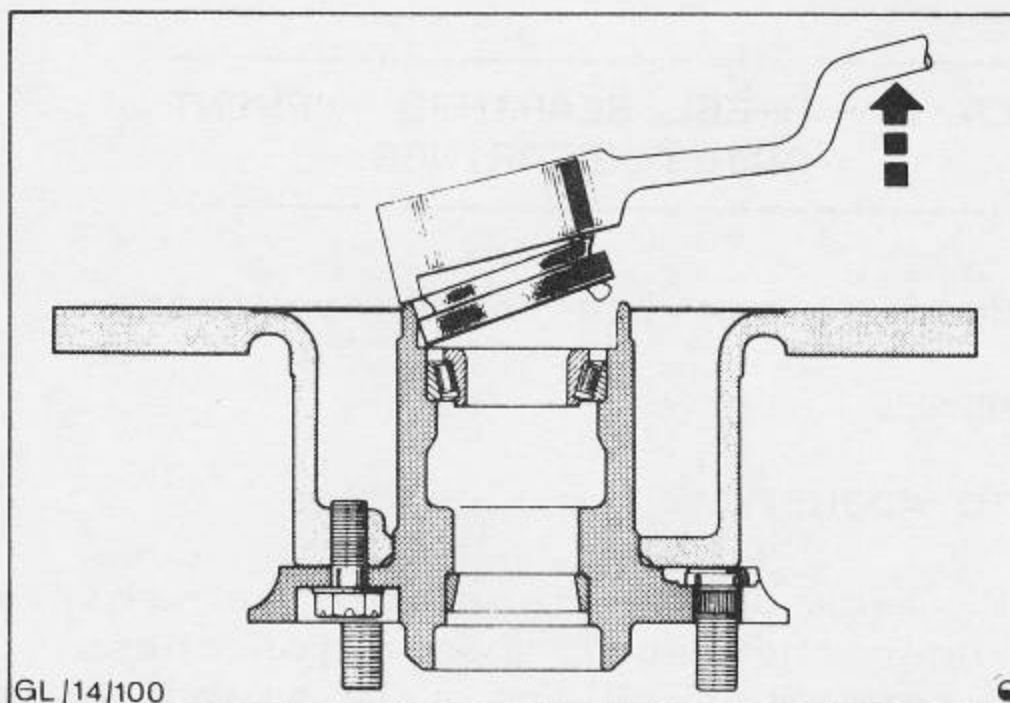

Fig.21 Method of using Special Tool 21-051.
1. Remove grease retainer and bearing cone. Use Special Tool No.21 051 to prise grease retainer out of hub, Fig.21 An alternative method is to prise out the oil seal using a suitable screwdriver. Remove bearing cone.